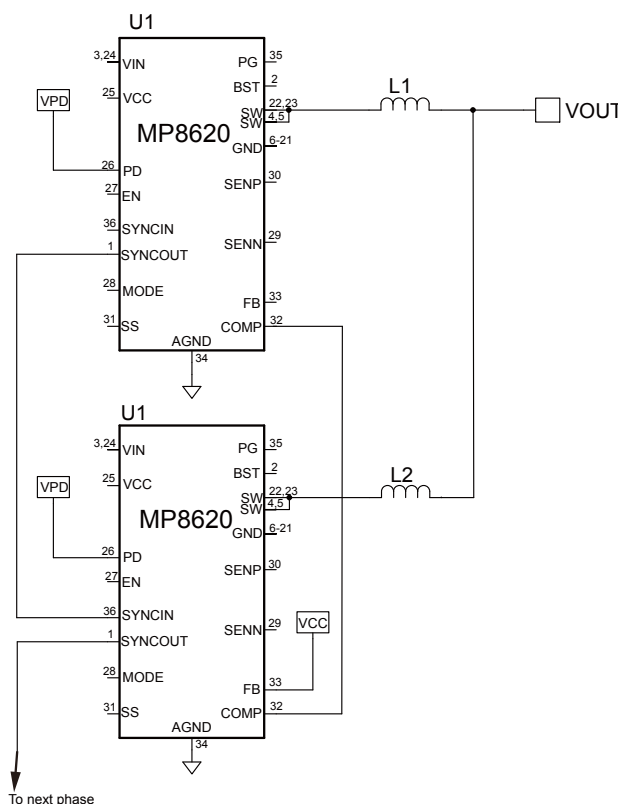

Figure 6
- b. Connect the COMP pin of slave IC to the COMP pin of the master IC as shown in Figure 6.